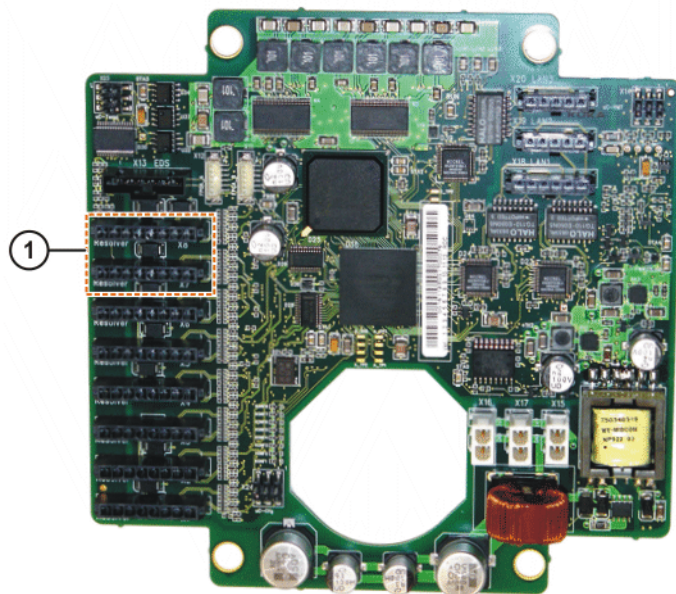

Fig. 5-2: Connecting the resolver cable to the RDC
2. Plug the flat connector of the connecting cable into one of the free connections. The connector locks itself in place (>>> Fig. 5-2).